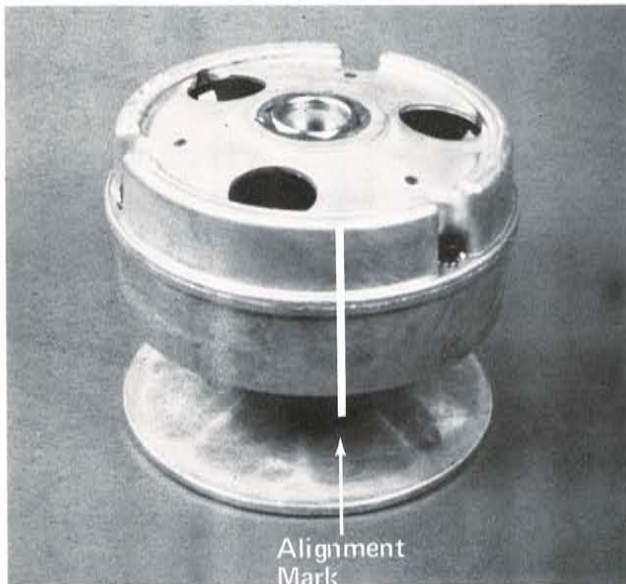

Fig. 1
2. Draw a mark across the outside of the stationary sheave, movable sheave, and outer cover housing. This is for alignment purposes during reassembly (Fig. 1).